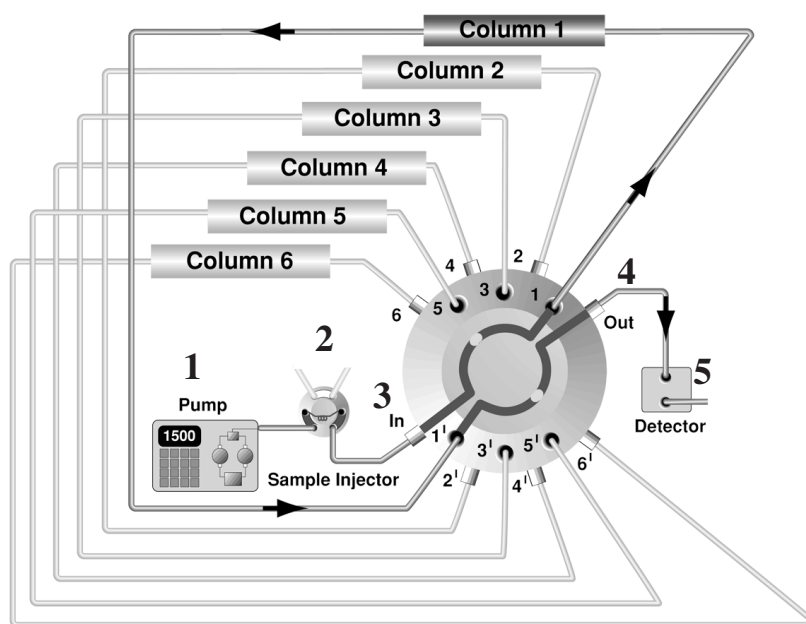

**Fig. 5. Installing columns on Column Selector.**
- (i) Connect the black wire (3) to the *ground terminal* (4) of the HPLC event relay R1.
- (ii) Connect the jumper wires (supplied) from the *ground terminal* (4) of the HPLC event relay R1 to the *ground terminals* (5, 6, and 7) of the HPLC event relays R2, R3, and R4.
- (iii) Connect the red wire (8) to the control line *terminal* (9) of the HPLC event relay R1.
- (iv) Connect the yellow wire (10) to the control line *terminal* (11) of the HPLC event relay R2.
- (v) Connect the blue wire (12) to the control line *terminal* (13) of the HPLC event relay R3.
- (vi) Connect the green wire (14) to the control line *terminal* (15) of the HPLC event relay R4.
1. Figure 5 shows the general locations for installing columns onto the Column Selector.
2. Open the upper column clip (1), insert the column (2), and close the upper column clip. Slide the column upward to allow opening of the lower column clip (3). Insert the column into and close the lower column clip.
3. Install the inlet nuts, ferrules, and tubing (5).
4. Install the outlet nuts, ferrules, and tubing (6).
- (a) The pump (1) and sample injector (2 [usually an autosampler]) are hooked up to the common valve inlet (3), through the columns (labeled 1-3 or 1-6) to the common valve outlet (4) to the detector (5).
- (a) The plastic solvent drip tray located below the valve (4 in Figure 5) is designed to funnel any spilled liquids through the tray exit hole (9 in Figure 5) to a waste container.